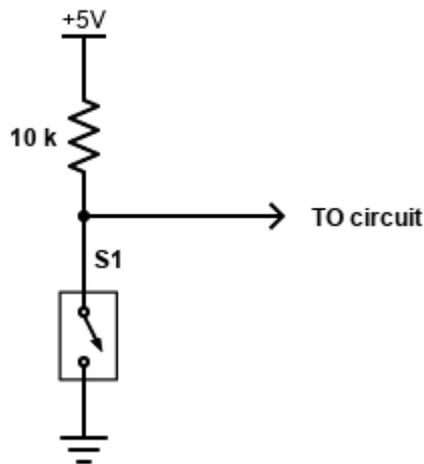

Fig. 4. Proper way of connecting a switch.
3. **Why do we connect the switch as shown in Fig. 4. Can we exchange the positions of resistor and switch? What is the adverse effect of doing that? Recall that we use 74xx TTL gates, whose input currents are not symmetric in High and Low states.**